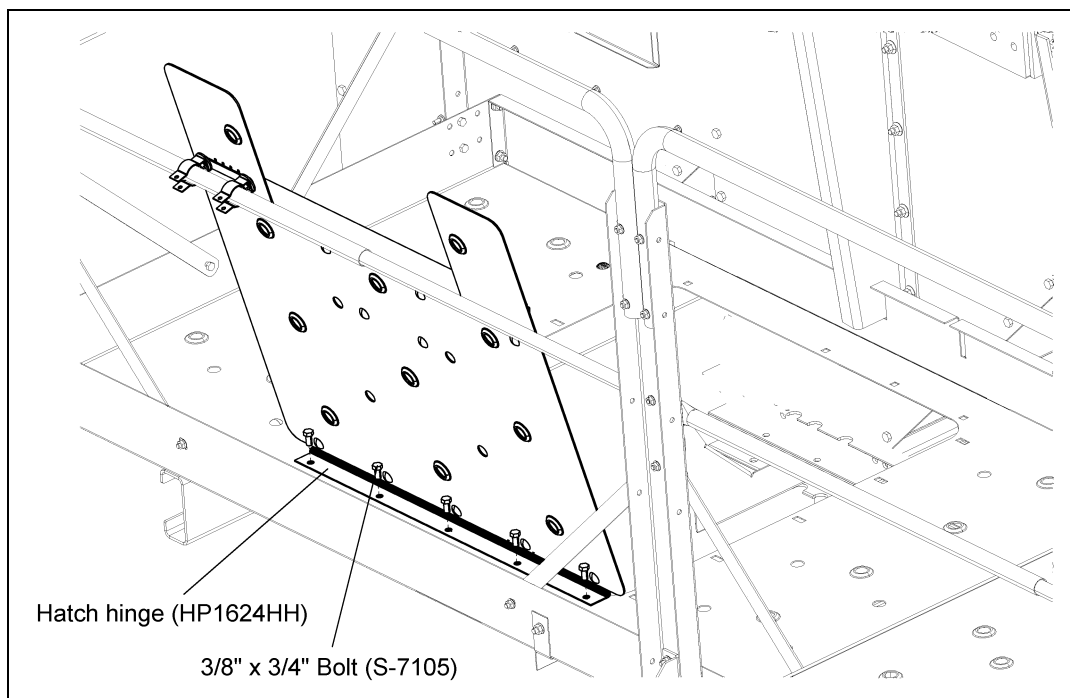

Figure 11D
6. Align holes on the hatch hinge with holes along the deck opening closest to the kick plates. Install the hatch door to the decking using 3/8" x 3/4" bolts (S-7105) and nuts. *(See Figure 11D.)*